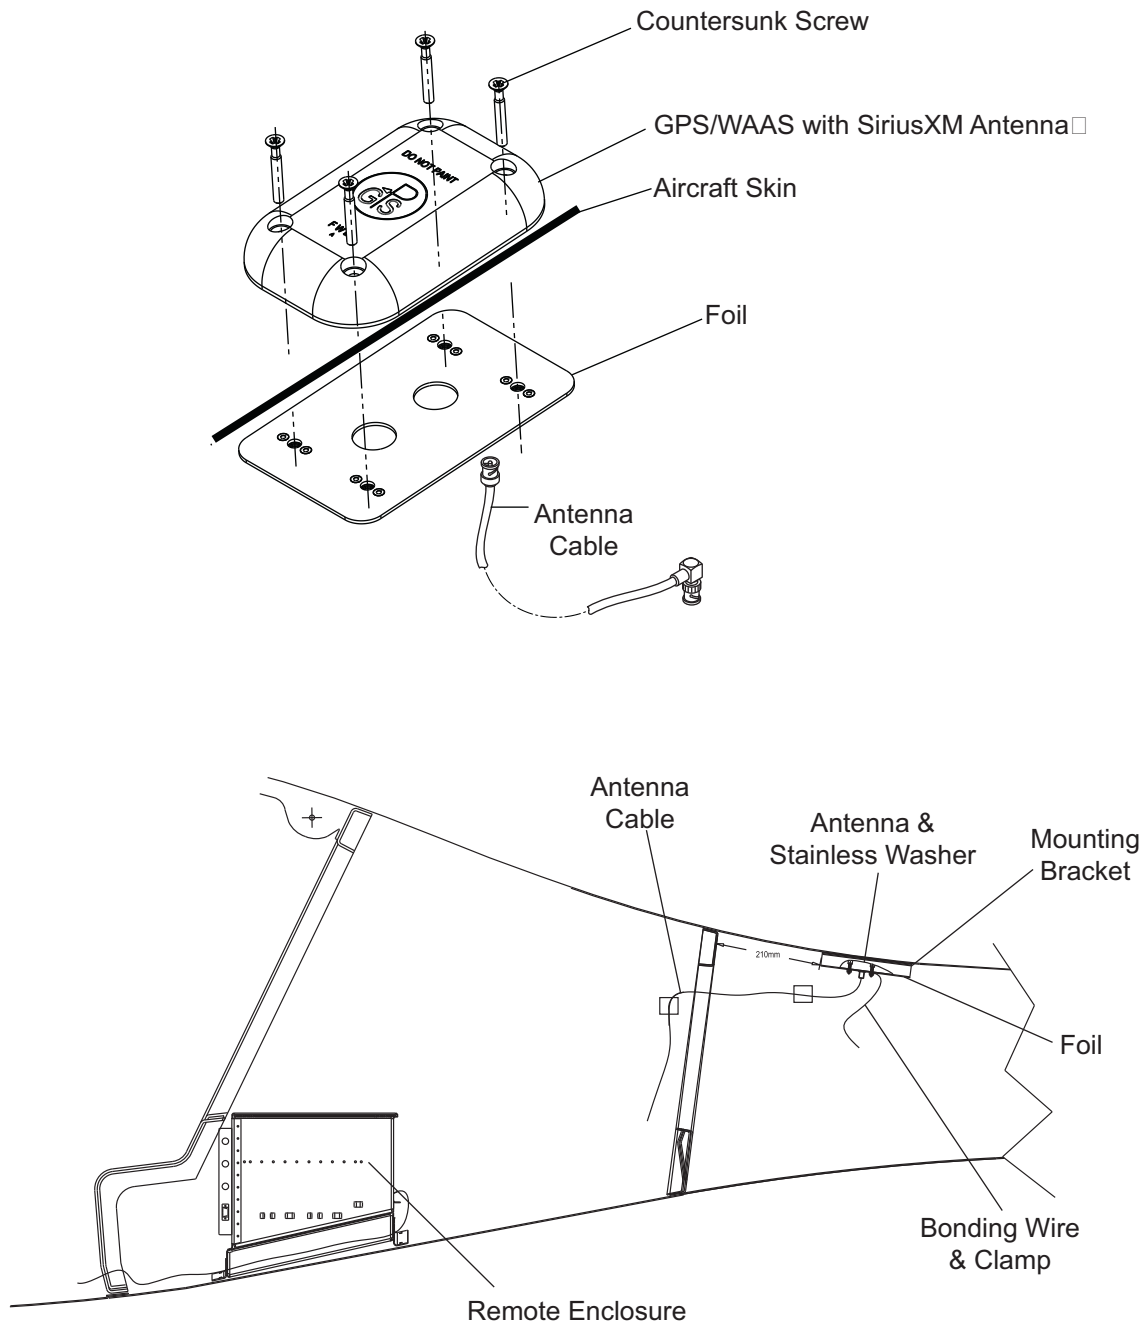

Figure 2 : GDL 69A SXM Antenna
- The GDL 69 A SXM Data Link antenna, see Figure 2.
Refer to Figure 2 in the Description and Operation page block 23-52-00.